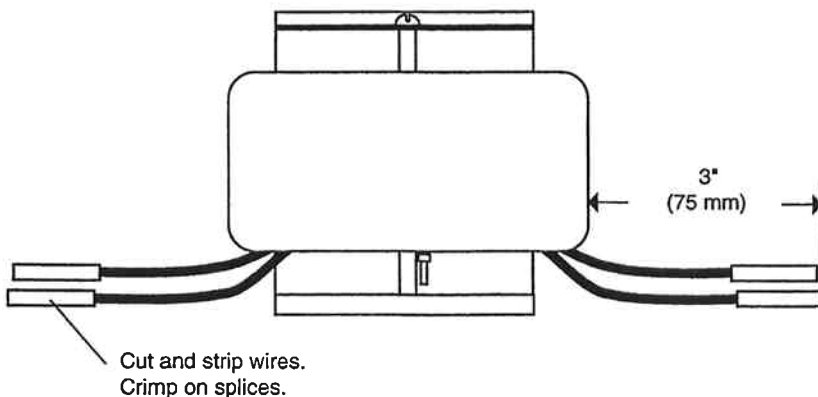

Figure 3A Modified Power Transformer
2. Find the four 16AWG wires (orange, violet, grey, white) located at the bottom of the transformer, and cut them back to approximately 3 inches (75 mm) - Fig. 3A.
4. Crimp on the supplied plastic splices to the stripped wires with an appropriate crimping tool - Fig. 3A.